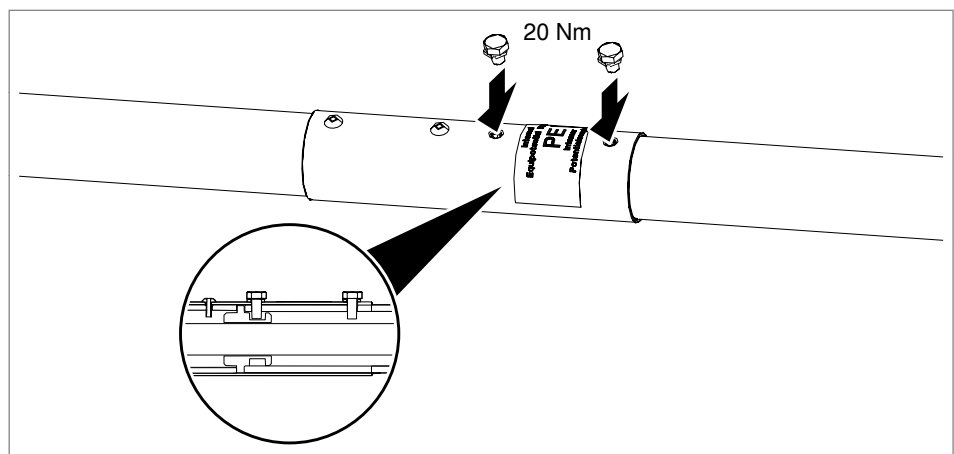

Fig. 33: Connecting the insulated central rod and the retaining rod
The internal potential connection element consists of two half shells. These must be located in such a way that they surround the isCon® conductor and one of the half shells is located centrally beneath the screw holes, so that it can be pressed on using the side screw (see also Fig. 33).
5. Push the retaining rod as far as it will go into the central rod. In so doing, the opening for the left copper screw (see Fig. 33) may not point to the gap between the half shells of the potential connection, but centrally to one of the half shells. If necessary, turn the half shells accordingly.